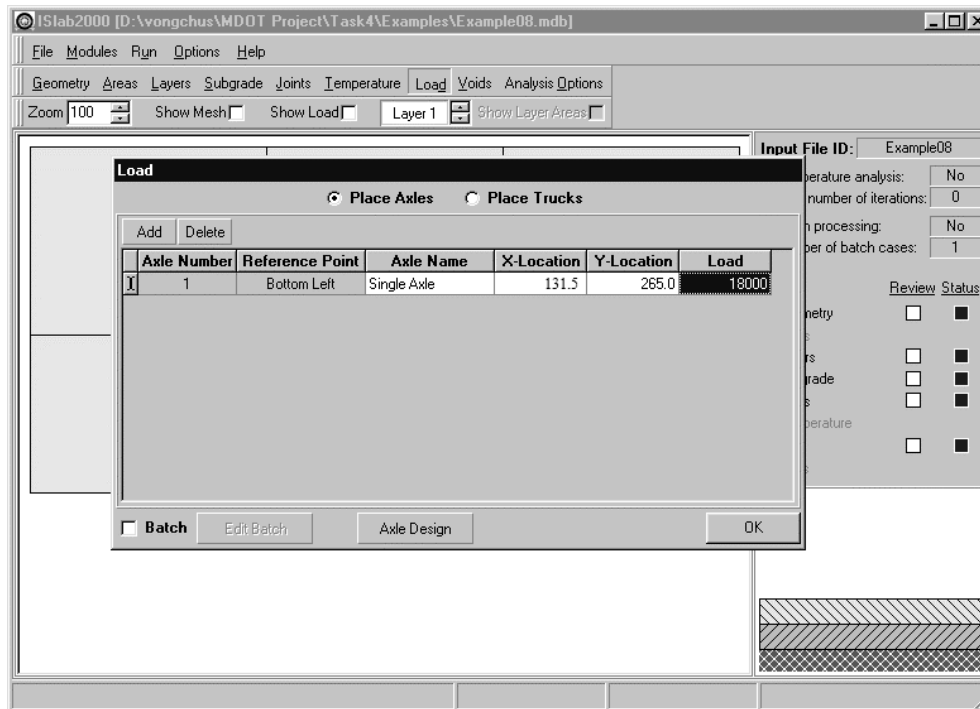

Figure E8-11: Edit Inputs for the Load Module (continued)
- Step 8: On the load panel, click on **Add** to add an axle (see Figure E8-11).
- Step 2: On the load panel (see Figure E8-11), click **Add** to add an axle.